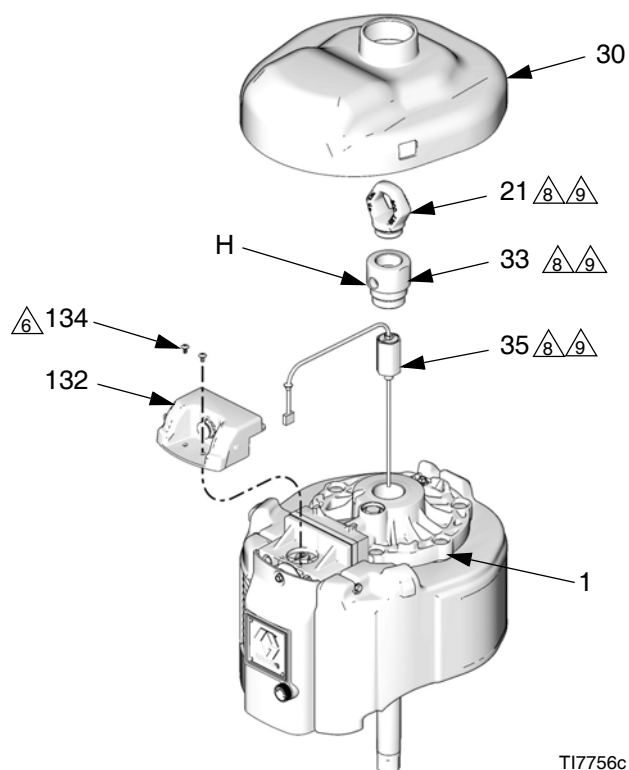

**FIG. 15. Sensor Cable Connection**
- a. **DataTrak Models:** Remove the two screws (135). Carefully remove the DataTrak module (131), see page 14. Disconnect the runaway solenoid and sensor cables from the module board. Remove the two screws (134) and carefully slide the housing (132) off the air valve.
- b. **Linear Sensor Models:** Remove the screws (134) and carefully slide the housing (132) off the air valve. Disconnect the sensor cable from the circuit board. See FIG. 15 on page 28.
10. Reinstall the muffler (15). Fully tighten the screws (43) against the muffler.
11. Reinstall the outer valve cover (47).
- a. **DataTrak Models:** Carefully slide the housing (132) onto the air valve. Thread the screws (134) in by hand, then torque to 100 in-lb (11.3 N•m). Reattach the solenoid and sensor cables to the DataTrak module (131), see page 14. Carefully slide the module back into the housing (132). Reinstall the two screws (135).
- b. **Linear Sensor Models:** Reconnect the sensor cable to the circuit board. See FIG. 15, page 28. Carefully slide the housing (132) onto the air valve. Thread the screws (134) in by hand, then torque to 100 in-lb (11.3 N•m).
13. Reinstall the top cover (30).
5. Remove the screws (134) and carefully slide the housing (132) off the air valve. Disconnect the sensor cable from the circuit board. See FIG. 15.
6. Thread the cable back through the hole (H) in the side of the adapter (33) and extend it out the top of the adapter.
7. Unscrew the adapter (33) and sensor (35). Lift the sensor straight up out of the air motor.
8. Apply thread adhesive to the new sensor housing. Screw the sensor (35) into the top cap (1). Torque to 30-36 ft-lb (40.6-48.8 N•m).
9. Apply thread adhesive to the adapter (33). Extend the sensor cable straight up out the top of the adapter, then screw the adapter into the top cap (1). Torque to 30-36 ft-lb (40.6-48.8 N•m).
10. Thread the sensor cable through the hole (H) in the side of the adapter, and reconnect it to the circuit board. See FIG. 15, page 28. Carefully slide the housing (132) onto the air valve. Thread the screws (134) in by hand, then torque to 100 in-lb (11.3 N•m).
11. Apply thread adhesive to the lift ring (21). Hold the adapter (33) with a wrench to keep it from turning, and torque the lift ring to 30-36 ft-lb (40.6-48.8 N•m).
12. Reinstall the top cover (30).